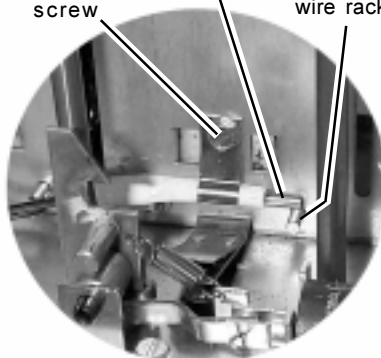

Figure 3
Each sheath MUST extend at least 1/4" (6mm) beyond the end of its timer sensor, as shown in Figure 3.
- Gently slide the insulating sheath along the sensor wires, until it extends at least 1/4" (6mm) past the end of the sensor. See Figure 3 for the correct position of the sheath.